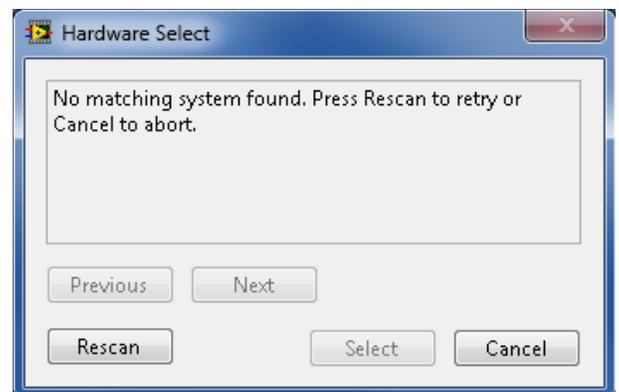

Figure 3. Connectivity Error (see Step 2)
2. If the SDP board is not connected to the USB port when the software is launched, a connectivity error displays (see Figure 3). Simply connect the evaluation board to the USB port of the PC, wait a few seconds, click **Rescan**, and follow the instructions.